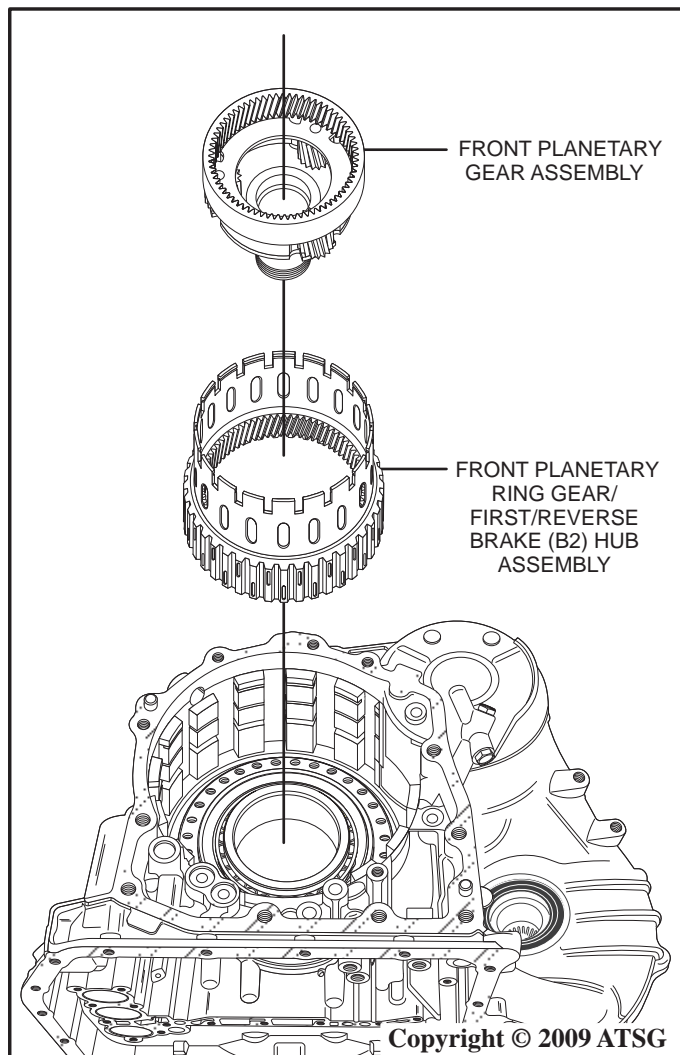

Figure 57
97. Carefully remove the transaxle housing from the press and flip the transaxle housing over and remove the front planetary gear assembly by lifting straight up as shown in Figure 57.
98. Remove the front planetary ring gear and first/reverse brake (B2) hub assembly by lifting straight up as shown in Figure 57.